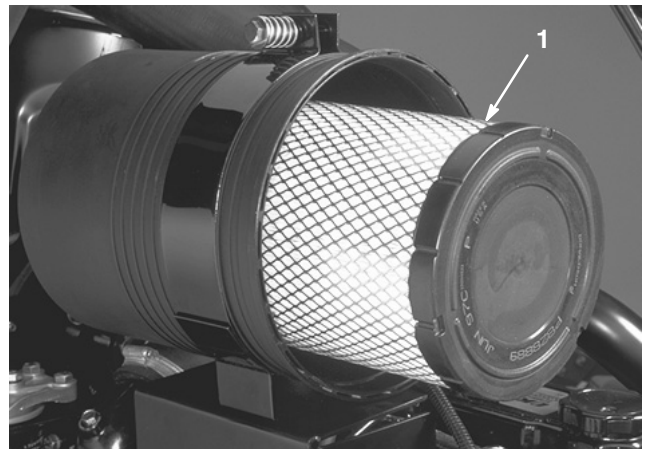

Figure 49
2. Gently slide filter out of air cleaner body to reduce the amount of dust dislodged (Fig. 49). Avoid knocking filter against air cleaner body.